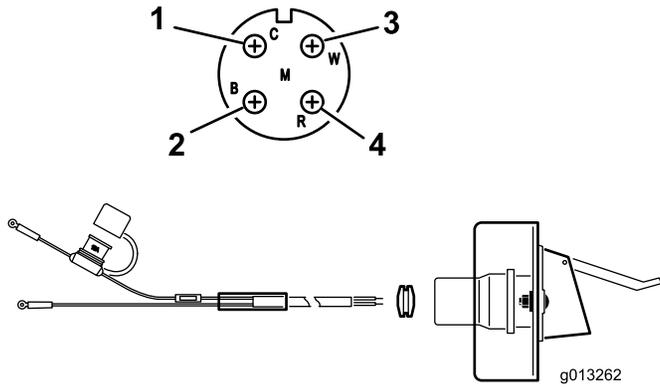

Figure 9
2. Route and secure the electrical wiring from the battery to the electrical plug bracket (Figure 9).
3. Feed the wiring through the socket bracket, install the black rubber grommet over the wiring (Figure 9).